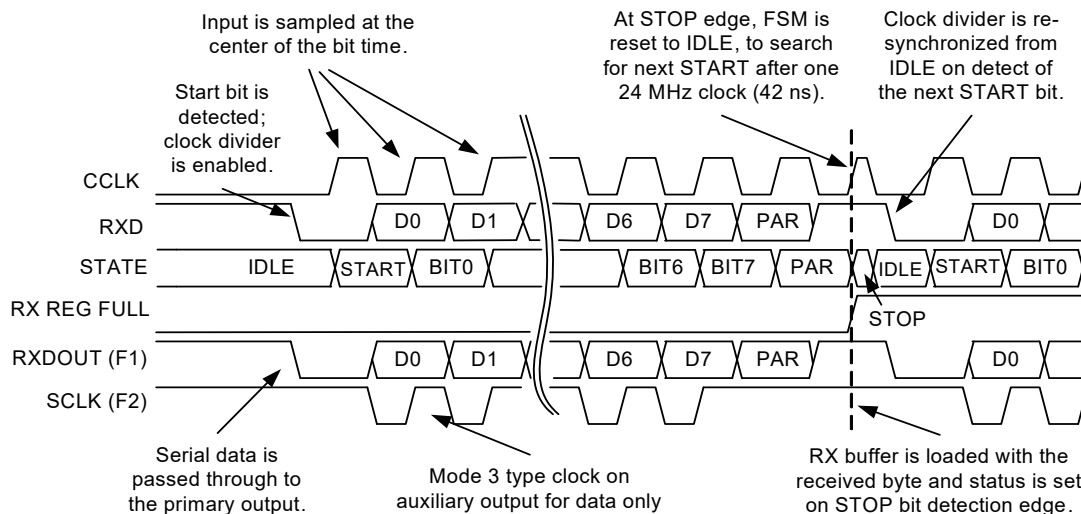

Figure 17-27. Receiver Operation
**Receive Operation.** A clock, which must be eight times the desired baud rate, is selected as the CLK input. This clock is an input to the RX block clock divider. When the receiver is idle, the clock divider is held in reset. As shown in Figure 17-27, reception is initiated when a START bit (logic 0) is detected on the RXD input. When this occurs, the reset is negated to the clock divider and the 3-bit counter starts an up-count. The block clock is derived from the MSb of this
To facilitate connection to other digital blocks, the RXD input is passed directly to the RXDOUT (primary) output. The SCLK (auxiliary) output has an SPI mode 3 clock associated with the data bits (for mode 3 timing see Figure 17-27). During the mark (idle) and framing bits, the SCLK output is high.